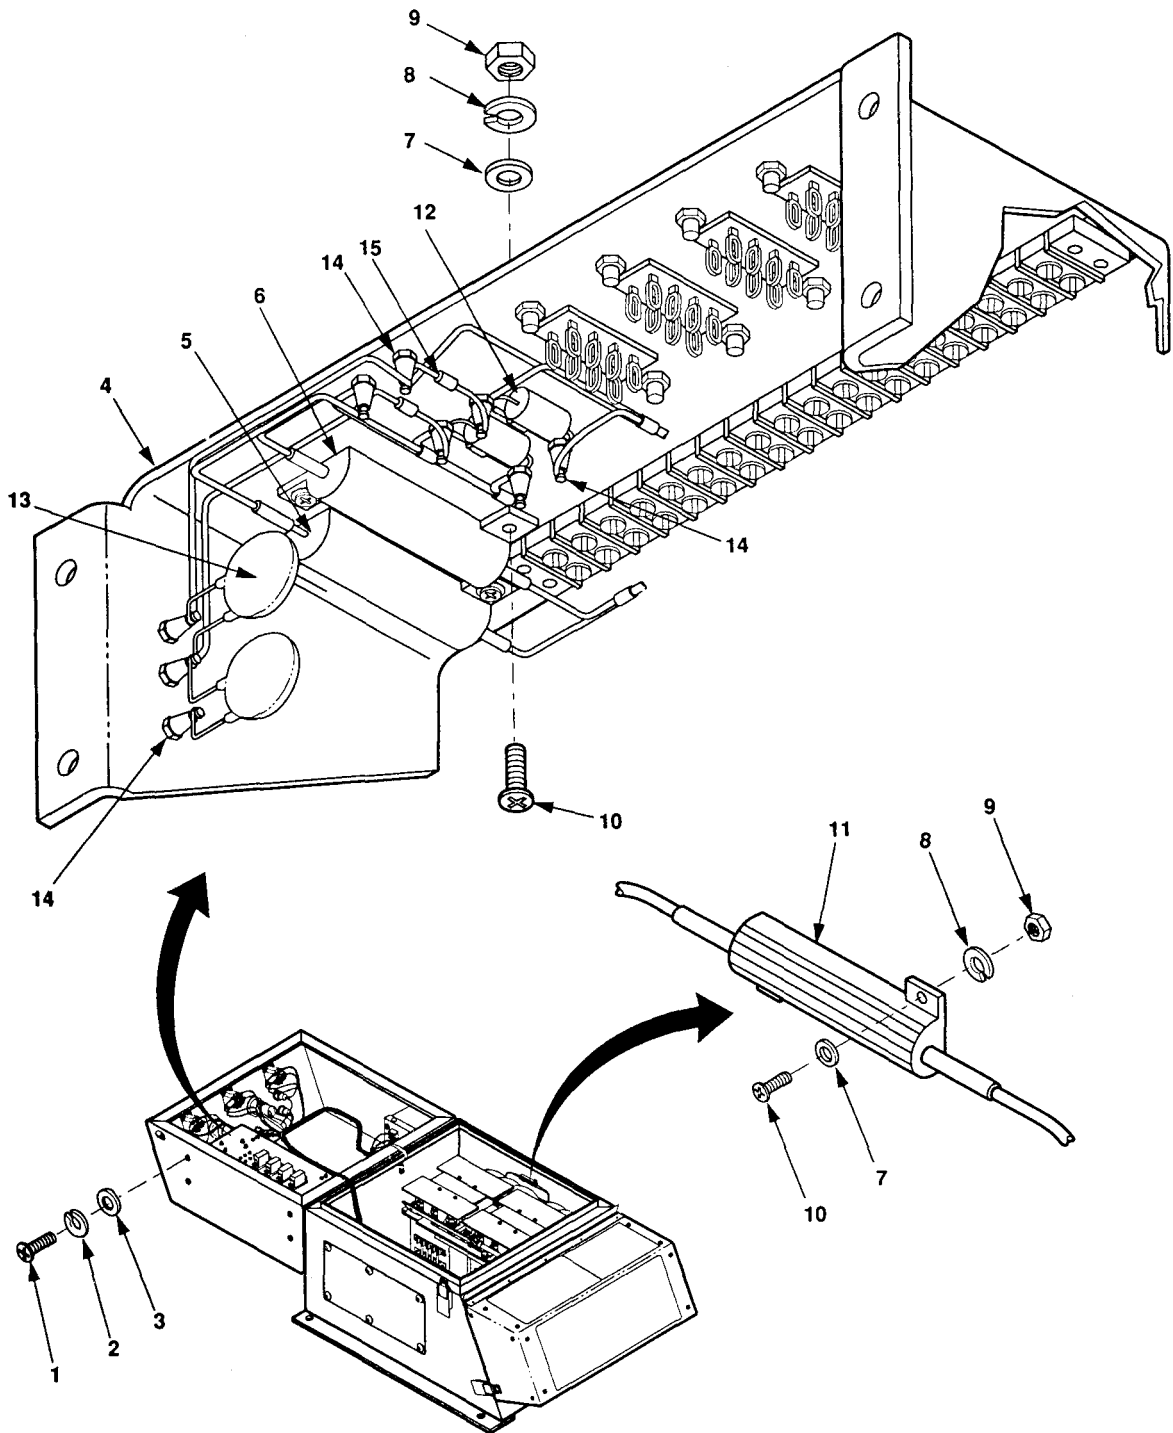

Figure 5-19. Resistors, Capacitors, and Diodes.
1. Remove four screws (1, figure 5-19), lock washers (2), and flat washers (3) and invert relay board assembly (4).
2. Discharge capacitors C1 and C2 (12) and C3 and C4 (13) by shorting across terminals.
6. If capacitor passes test, place relay board assembly (4) in position and secure with four flat washers (3), lock washers (2), and screws (1).
2. Unsolder one end of diode (15) to be tested.